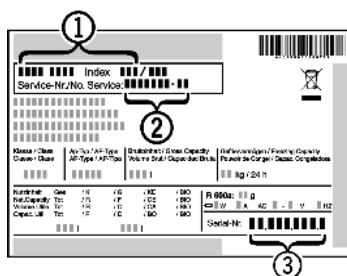

Fig. 10
appliance designation Fig. 10 (1), service no. Fig. 10 (2)
and serial Fig. 10 (3) no.